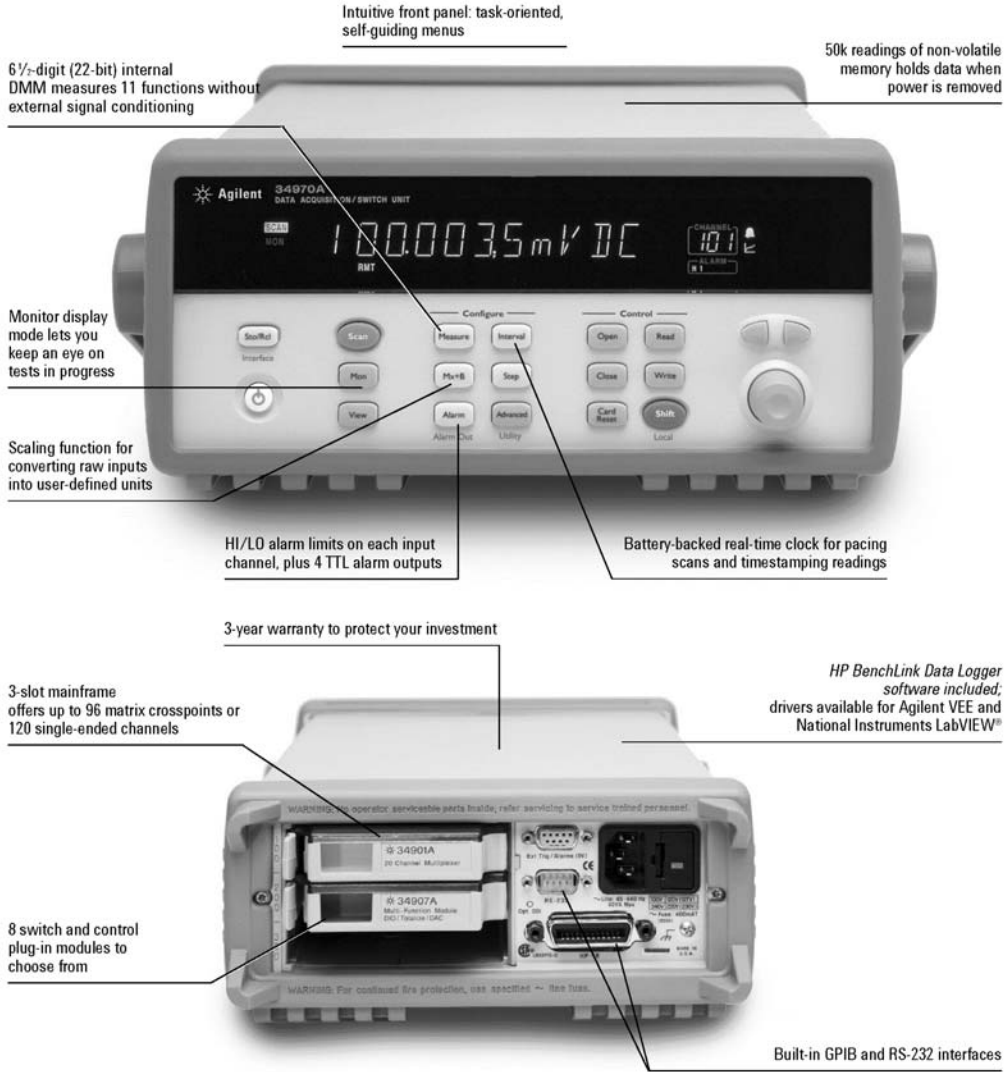

Figure 4.5. The 34970A Data Acquisition/Switch Unit
9. Insert the Multiplexer into the top slot in the rear of the 34970A Data Acquisition/Switch Unit. See the bottom photograph of Figure 4.5.